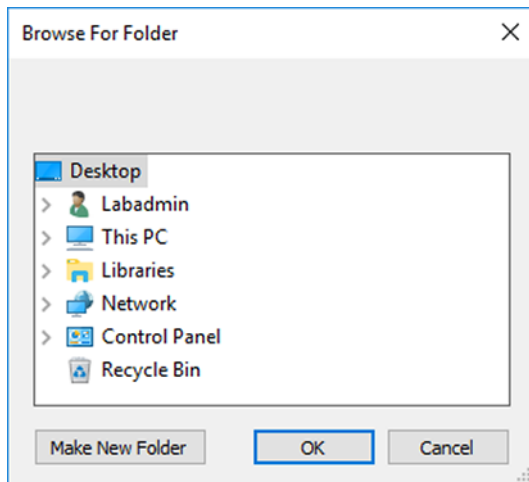

Figure 44: Browse For Folder dialog
3. In the menu bar of the **Data Analysis** window click **Export** → **Export All Data Sheets** to open the **Browse For Folder** dialog (see Figure 44).